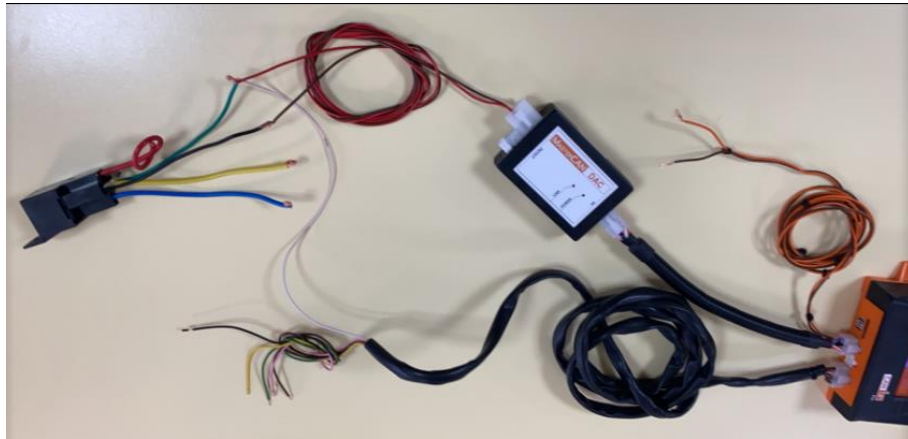

Figure 8 — Connecting power contact of the relay coil to the analog input of CANUp 27 LTE
**6)** For additional control of the relay coil status, it is necessary to connect CANUp 27 analogue input (**SENS** connector, pin 3 (white, AIN) to the "+" power contact of the relay coil) using white wire of **CANUp 27 cable** (supplied with the telematics gateway) (see figure 8).